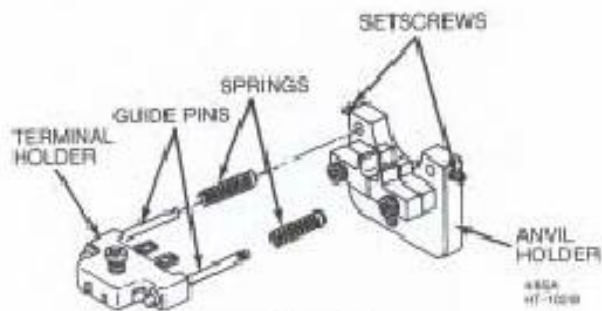

Figure 7
2. Loosen the two setscrews in the anvil holder and remove the terminal holder (see Figure 7).